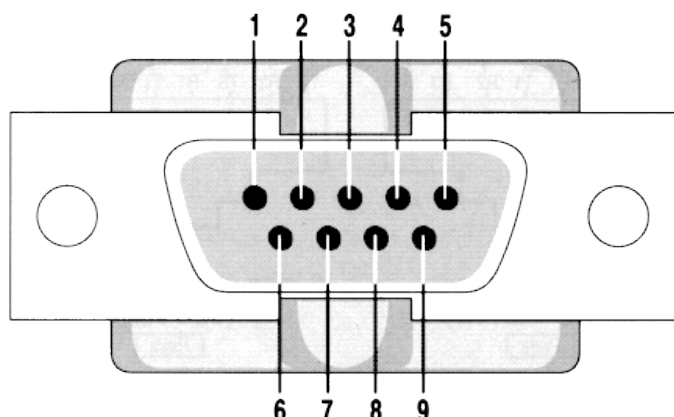

Figure 3. Pin numbering for a female 9 pin Sub D connector
PCs and other computer systems that have capability to communicate using the RS-232 standard typically use a DB-9 connector to interface with the communications wires. The pin number assignments for a female DB 9 connector are shown in Figure 3. The functionality of the DB 9 connector pins are made on the basis of the connector attaching to Data Terminal Equipment (DTE) or Data Communications Equipment (DCE). The DTE refers to the end device that uses or generates the information. It is the connector on the back of the PC. The DCE refers to equipment that transmits or receives analog or digital signals over the connecting media. It is sometimes called the modem (modulator / demodulator). The connecting media can be wire, fiber optic cable, water (in the case of acoustic modems), or space for cases such as radio frequency (RF) and infrared (IR) modems. Figure 4 shows the pin and functionality for a DTE to DCE connection.